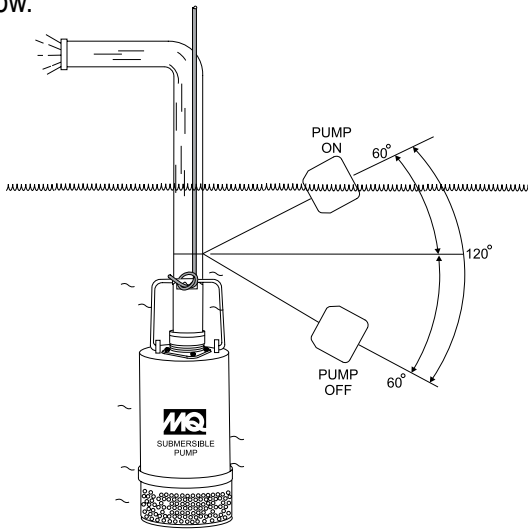
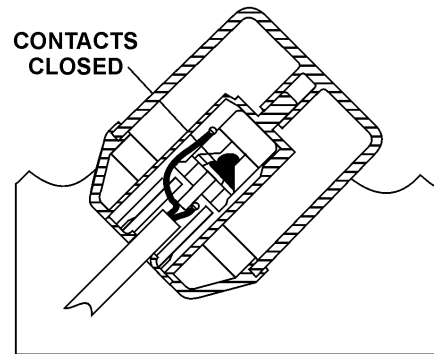
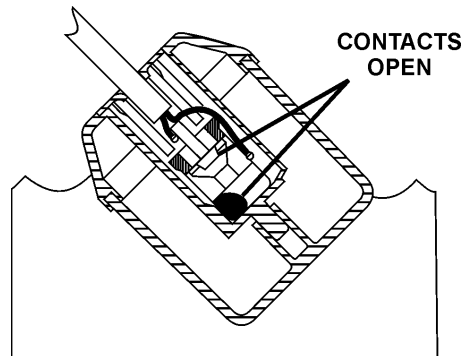
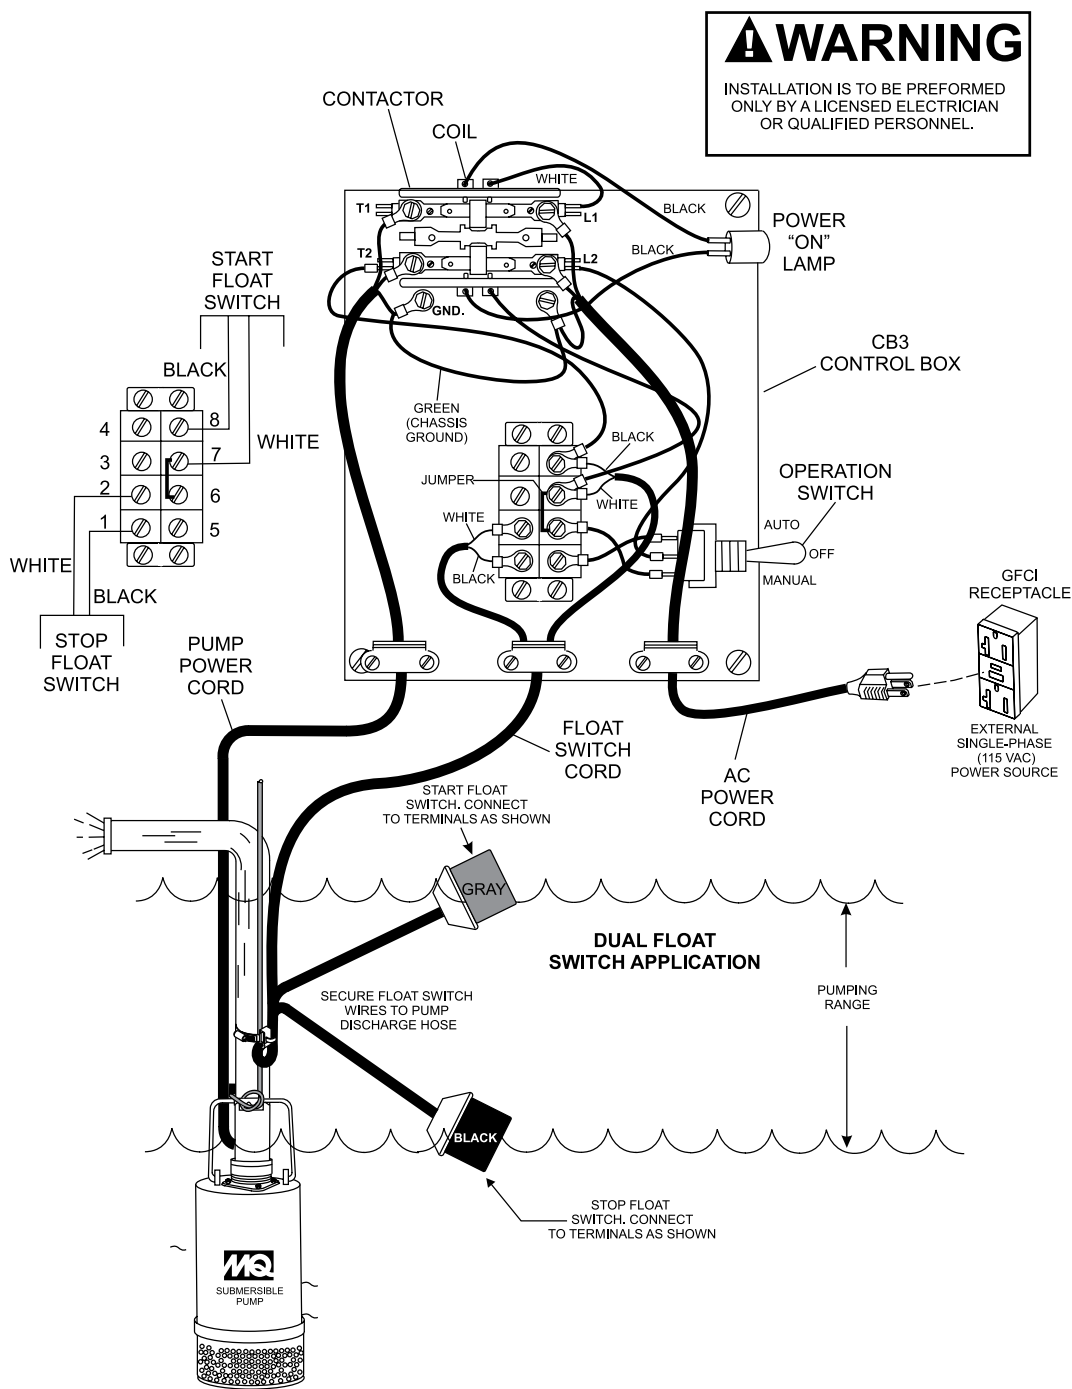

Figure 3. Pumping Range (Float Switch)
Figure 4. Float Switch (Closed)
Figure 5. Float Switch (Open)
Figure 7. CB3 Control Box and Dual Float Switch Application Diagram
There is a tilt-sensitive mercury switch hermetically sealed within each float. As the liquid level (water) rises or falls, the float changes its angle until the mercury switch makes (close, Figure 4) or breaks (open, Figure 5) the circuit. Maximum pumping range is 120 degrees. See Figure 3 below.
When using the CB3 control box, only the SW-1WOP float switch (2) can be used (no plug, bare wires). Shown below (Figure 7) is a wiring layout of the CB3 control box. Also refer to the wiring diagram of the control box.
1. Remove the float switch input connector housing, then route the float switch wires through the cable gland on the control box. Attach the wires of the float switch to the terminal block as indicated by Table 5. and Figure 7.
3. Determine the length of the float switch wires, then secure float switch wires to pump discharge hose. See Figure 3, Figure 7, and Table 3 to determine the pumping range.
3. Connect the AC power cord to the contactor as shown in Figure 7 and Table 6.
3. Connect the pump power cord to the contactor as shown in Figure 7 and Table 7.